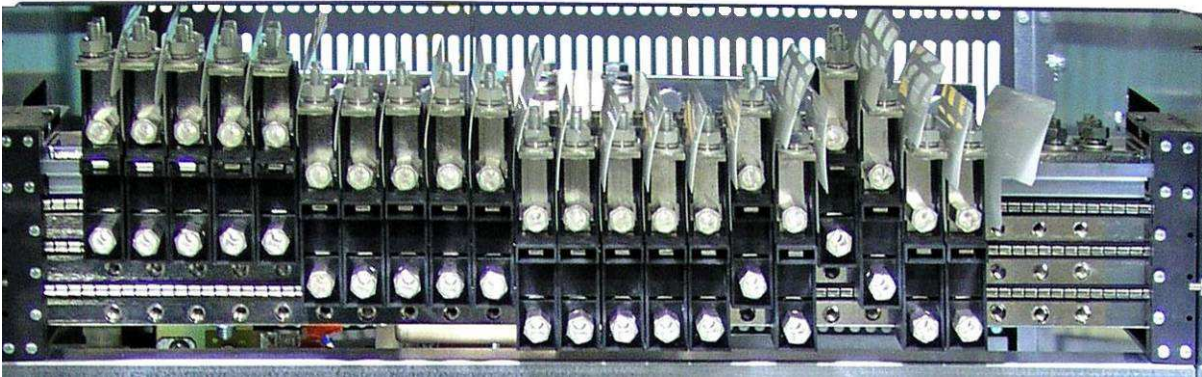
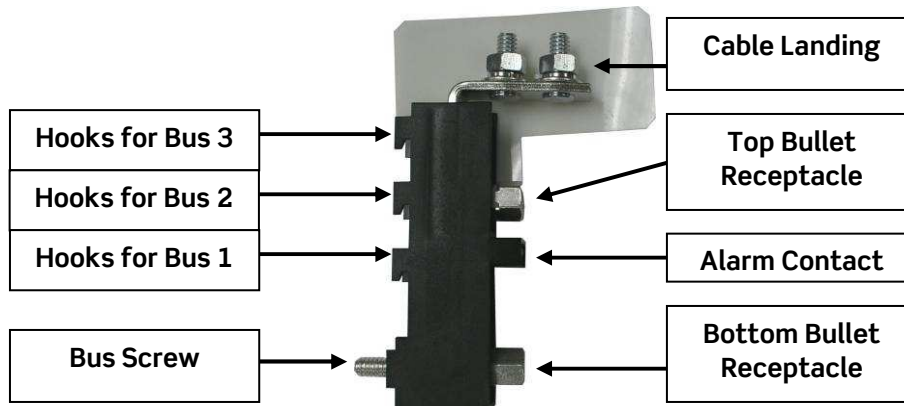
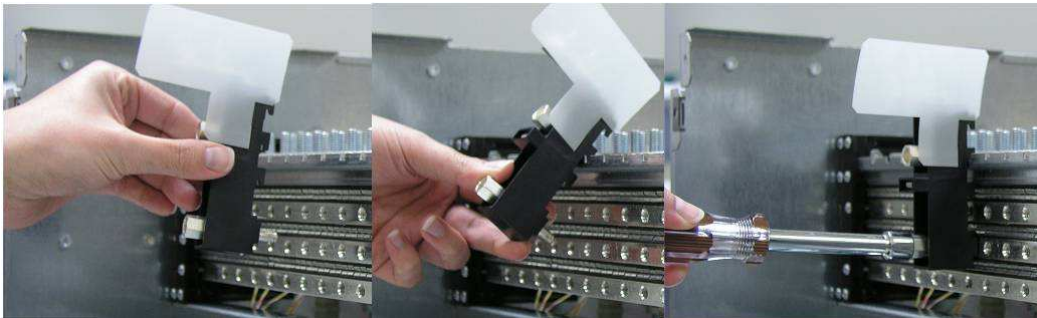

Figure 10 - Three-bus Distribution with Adjustable Distribution Device Holders
Figure 11 - Distribution Device Holder
Figure 12 - Distribution Device Holder Installation
The three-bus distribution features a unique, configurable design that allows load breakers and/or fuses to be aligned to any one of the three parallel, front-access buses (see Figure 10). Load landings accept up to #1 AWG cable with two-hole 1/4" lugs on 5/8" centers. Rear-access battery landings accept two-hole 3/8"-16 lugs on 1" centers; maximum wire gauge depends on the size of the distribution section.
Distribution device holders are pre-installed to Bus 3 (the lowest bus) at the factory. To properly access and reassign the distribution device holders refer to Figure 11 and Figure 12 when following these instructions:
- 3) To remove a device holder, use an insulated 7/16" or 11 mm nut driver to loosen the bottom bullet receptacle of the holder. See Figure 11.
- 5) Hook the device holder into the position that lines up with the bus selected in the above step. The holder's hooks (Figure 11) correspond to each bus. **NOTE:** Holders set to higher buses sit higher than those at lower buses. See Figure 10 on page 15.